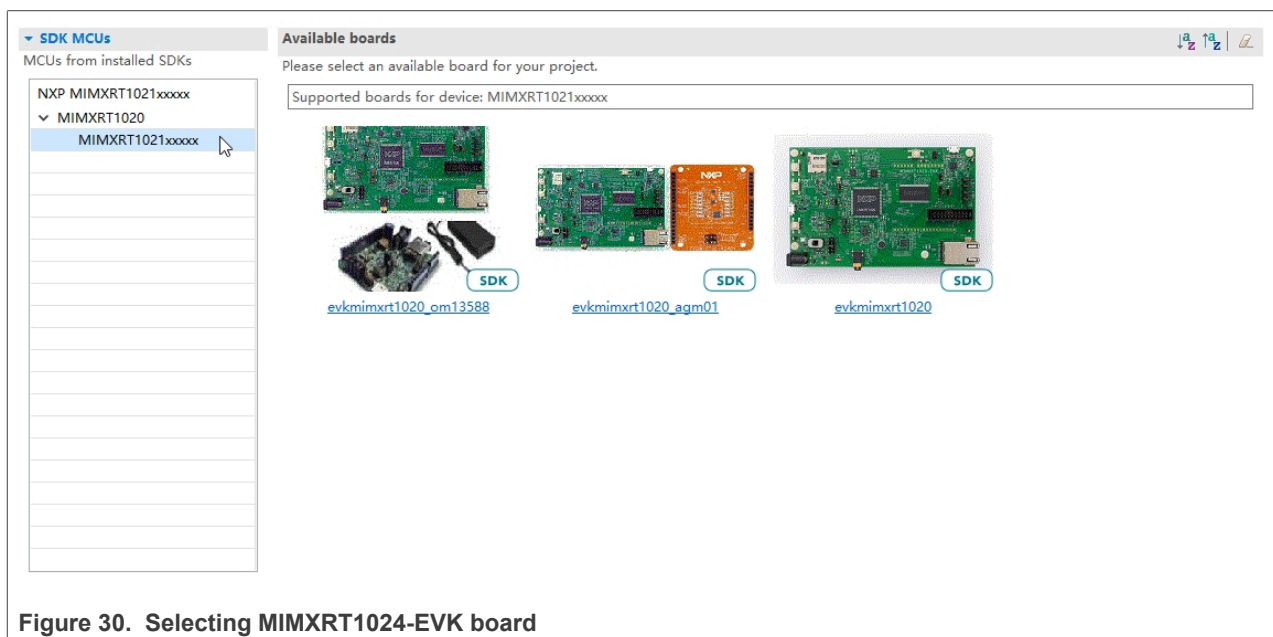

Figure 30. Selecting MIMXRT1024-EVK board
3. In the window that appears, expand the **MIMXRT1024** folder and select MIMXRT1024xxxxx. Then, select evkmimxrt1024 and click **Next**, as shown in Figure 30.